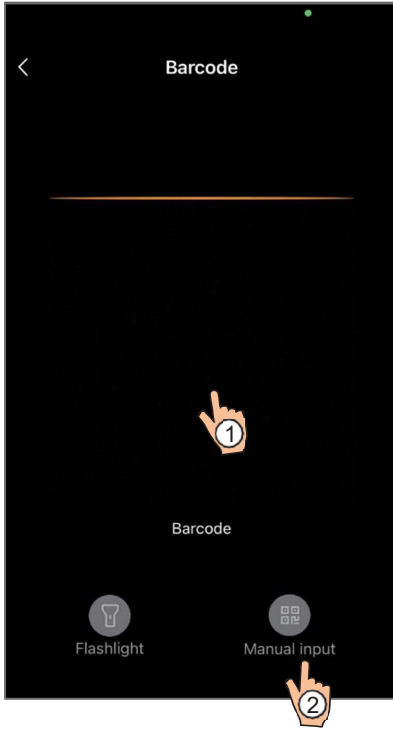
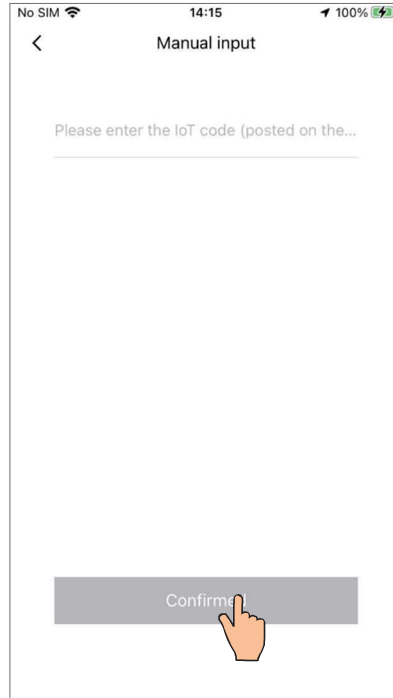

Fig.7 Scanning WF barcode
Fig.8 Manual input interface
1. Scanning the WF code on the fuselage (Fig.7) or manual input to enter the WF code (Fig.8).